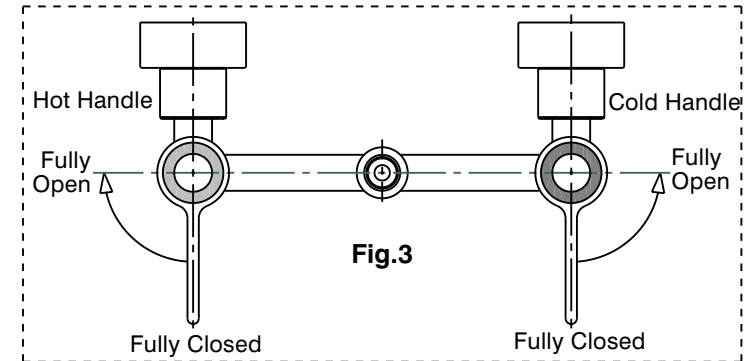
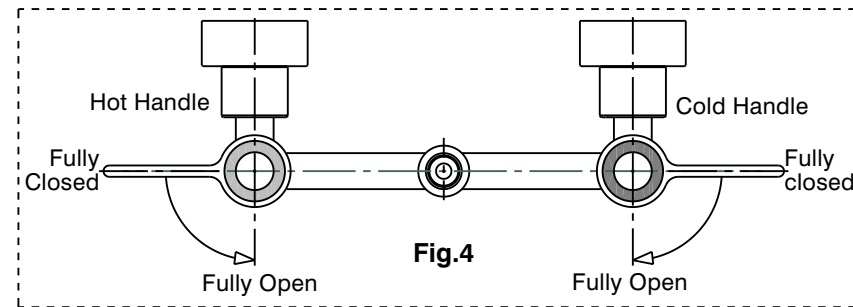

Fig.3
Fig.4
- 6) With cartridge spindles in the fully closed position (Fig.3 or 4), fit inserts (6) onto spindles then check that lever of handles (1) are in correct alignment with each other when fitted to handle inserts (6). For small adjustments to handle position, cartridge (8) can be rotated **slightly** in an anti-clockwise direction until handles are aligned before tightening locknut (7). Remove handles (1) then fit washers (5) & nuts (4) to thread of spindles and tighten to secure inserts (6). Align handles (1) as before then engage with insert (6) & tighten screw (2) with 2mm allen key (3).
- 3) Apply suitable lubricant to the 'O' Rings on the spigot of connectors (15). Fit the adaptors (12) of the breech (11) equally onto the spigots of connectors (15) until they contact the connector front face then tighten screws (13) using a 2.5mm allen key.
- 4) Determine handle closing position. **Forward closing lever handles** (ideal for opening using elbows) (Fig.3). Proceed to step 6. **Outward closing lever handles** (more suitable for opening by hand) (Fig.4). Proceed to step 5.
- 5) Remove locknuts (7) and fibre washers from cartridges (8). Unscrew cartridges (8) from breech bodies (10). Screw cartridge (8) (with red seal 9) into left hand 'hot side' breech body (10). Using a suitable spanner, tighten cartridge (8) until it comes to a firm stop (DO NOT TIGHTEN CARTRIDGE USING SPINDLE). Fit fibre washer & then locknut (7) and tighten using a suitable spanner, taking care not to damage the thread. Fit cartridge (8) (with blue seal 9) into right hand 'cold side' breech body (10) in a similar manner.